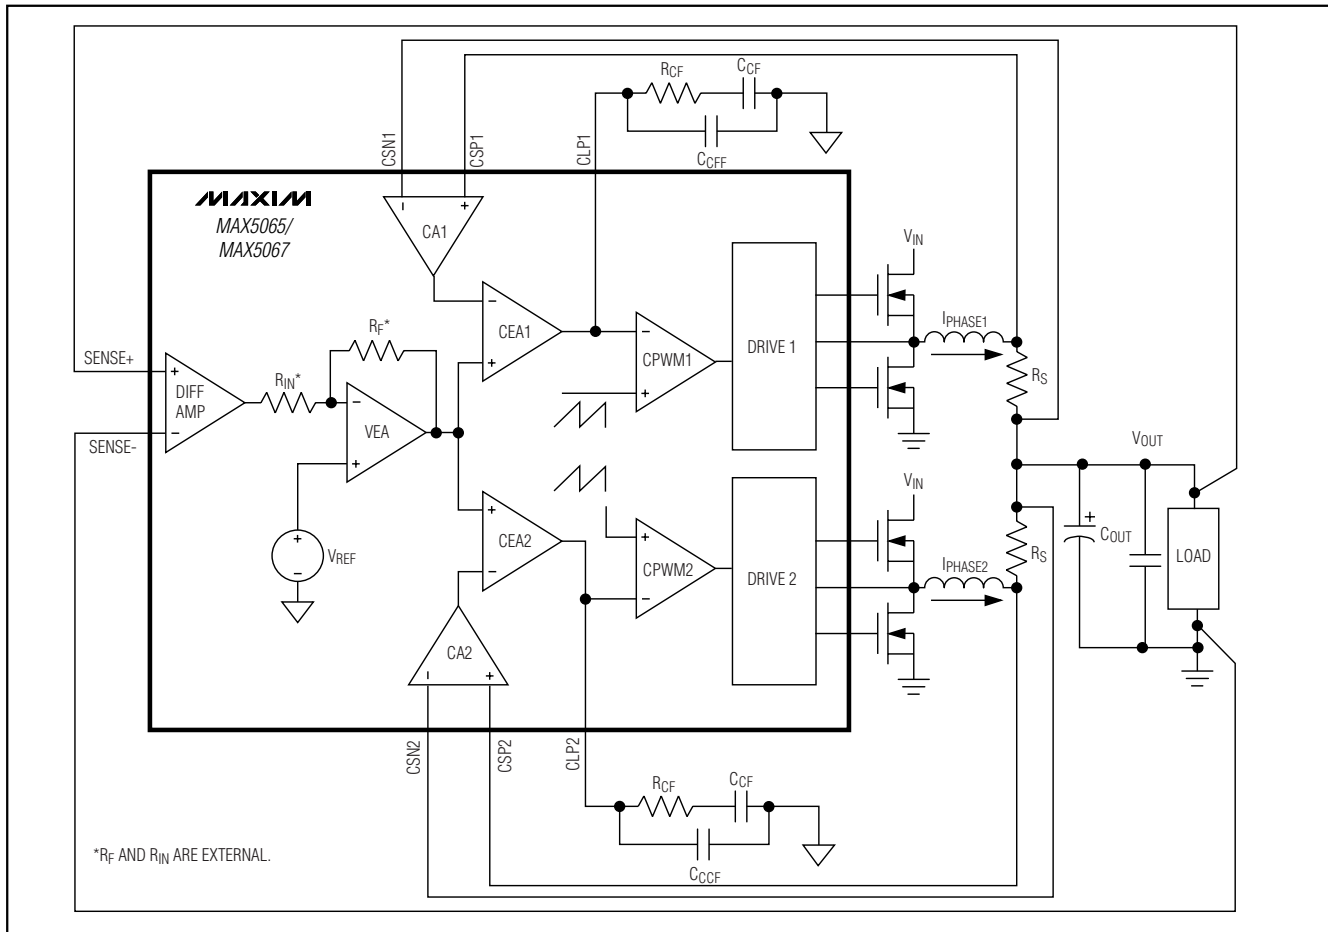

Figure 4. MAX5065/MAX5067 Control Loop
The MAX5065/MAX5067 use an average-current-mode control scheme to regulate the output voltage (Figure 4). The main control loop consists of an inner current loop and an outer voltage loop. The inner loop controls the output currents (I_{PHASE1} and I_{PHASE2}) while the outer loop controls the output voltage. The inner current loop absorbs the inductor pole reducing the order of the outer voltage loop to that of a singlepole system.
The outer voltage control loop consists of the differential amplifier (DIFF AMP), reference voltage, and VEA. The unity-gain differential amplifier provides true differential remote sensing of the output voltage. The differential amplifier output connects to the inverting input (EAN) of the VEA. The noninverting input of the VEA is internally connected to an internal precision reference voltage. The MAX5067 reference voltage is set to +0.8V and the MAX5065 reference is set to +0.6V. The VEA controls the two inner current loops (Figure 4). Use a resistive feedback network to set the VEA gain as required by the adaptive voltage-positioning circuit (see the *Adaptive Voltage Positioning* section).
Each phase of the MAX5065/MAX5067 has a dedicated transconductance current-error amplifier (CEA_) with a typical g_m of 550 μ S and 320 μ A output sink and source current capability. The current-error amplifier outputs, CLP1 and CLP2, serve as the inverting input to the PWM comparator. CLP1 and CLP2 are externally accessible to provide frequency compensation for the inner current loops (Figure 4). Compensate CEA_ so the inductor current down slope, which becomes the
The differential amplifier (DIFF AMP) facilitates output voltage remote sensing at the load (Figure 4). It provides true differential output voltage sensing while rejecting the common-mode voltage errors due to high-current ground paths. Sensing the output voltage
The VEA output clamps to +0.9V relative to VCM (+0.6V), thus limiting the average maximum current from individual phases. The maximum average current-limit threshold for each phase is equal to the maximum clamp voltage of the VEA divided by the gain (18) of the current-sense amplifier. This results in accurate settings for the average maximum current for each phase. Set the VEA gain using RF and RIN for the amount of output voltage positioning required within the rated current range as discussed in the *Adaptive Voltage Positioning* section (Figure 4).
Average-current-mode control has the ability to limit the average current sourced by the converter during a fault condition. When a fault condition occurs, the VEA output clamps to +0.9V with respect to the common-mode voltage ($V_{CM} = +0.6V$) and is compared with the output of the current-sense amplifiers (CA1 and CA2) (see Figure 4). The current-sense amplifier's gain of 18 limits the maximum current in the inductor or sense resistor to $I_{LIMIT} = 50mV/R_S$.